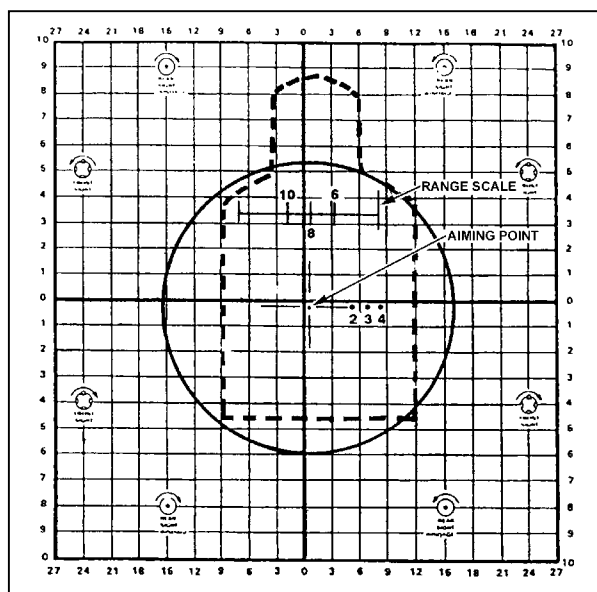

Figure G-56. Reticle aiming point, target aiming point and shot group.
d. **Confirming the Boresight.** To do this, the gunner centers and affixes a 25-meter (M16A2) zero target to the back of a basic machine gun paster target. This provides a large, clear surface for identifying the strike of the round. Then, he emplaces the target 10 meters from the firing position. The gunner places the reticle aiming point on the 25-meter zero target aiming point (Figure G-56, page G-50) and fires a single round. If the round impacts anywhere near the aiming point, he fires two more rounds to establish his group.